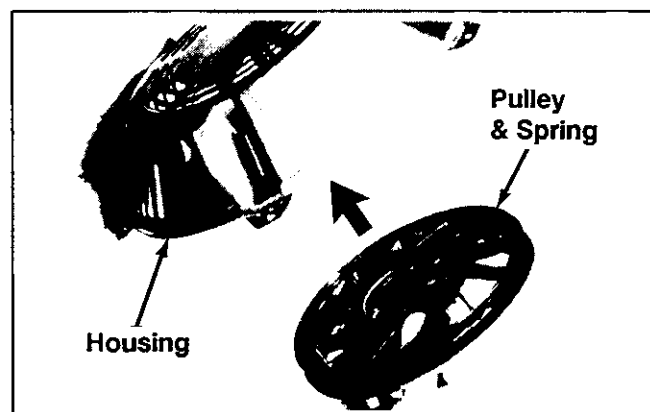

Figure 7-9. Installing Pulley And Spring Into Housing.
- Install the pulley with spring and keeper assembly into the starter housing. See Figure 7-9.